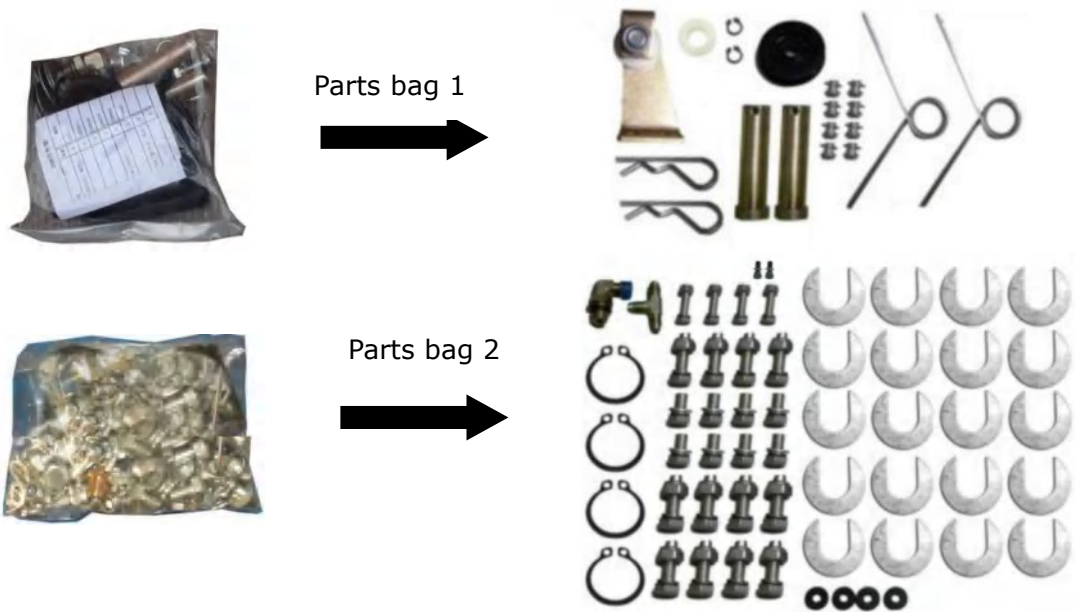

Fig. 15
6. Open the parts bag and check the parts according to parts bag list (See Fig. 15).